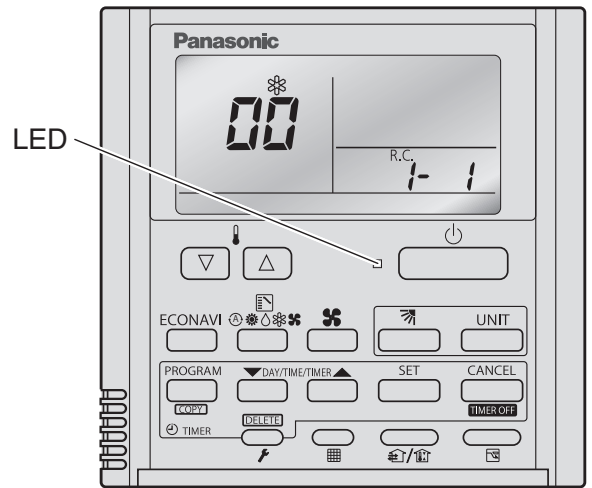

Fig. 6-1
- **All units start/stop (Fig. 6-1)**
- **Cooling/heating change (Fig. 6-1)**